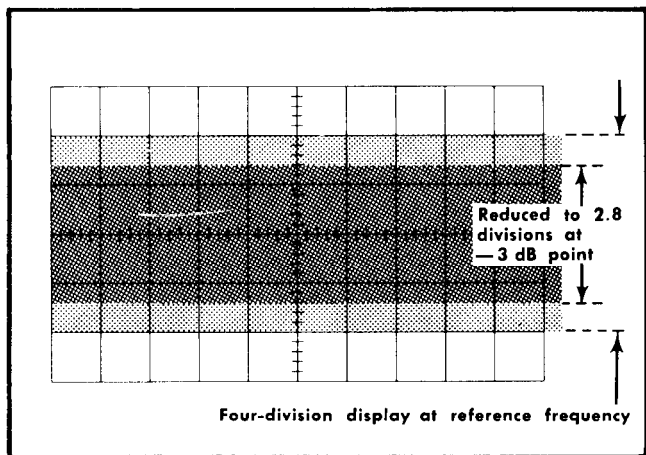

Fig. 5-7. Typical CRT display when checking vertical frequency response (simulated waveform)
d. Without changing the output amplitude, increase the output frequency of the generator until the display is reduced to 2.8 divisions (-3 dB point; see Fig. 5-7).
c. Without changing the output amplitude, increase the output frequency of the generator until the deflection is reduced to 2.8 divisions (-3 dB point; see Fig. 5-7).
d. Without changing the output amplitude, increase the output frequency of the generator until the deflection is reduced to 2.8 divisions (-3 dB point; see Fig. 5-7).